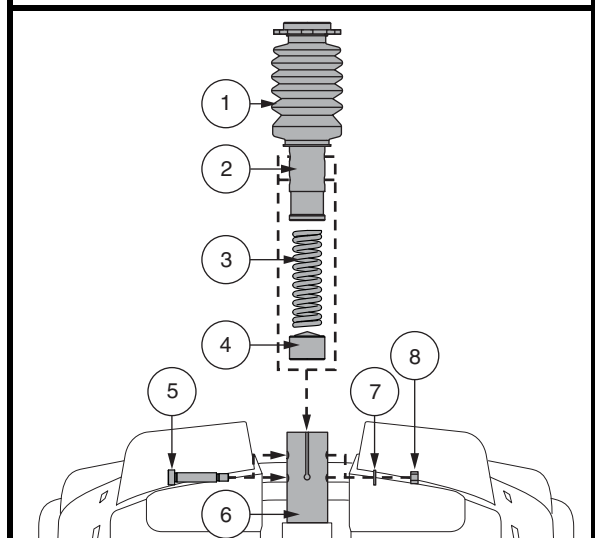

Figure 19. Seat Height Adjustment - Comfort Seat Post
4. Push down on the seat post while loosening and removing the shoulder bolt, washer, and nut. **See figure 19.**
6. Install the desired spring. **See figure 19.**